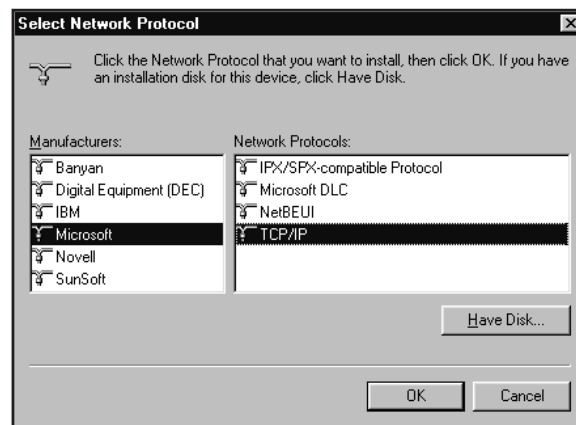

Figure 191 Select Network Protocol
5. After removing any unneeded items from the list of network components, it is time to add the TCP/IP protocol. Use the **Add** button to bring up the Select Network Component Type dialog. Highlight Protocol from the Network Component Type list and press **Add** to see a dialog as shown in Figure 191.